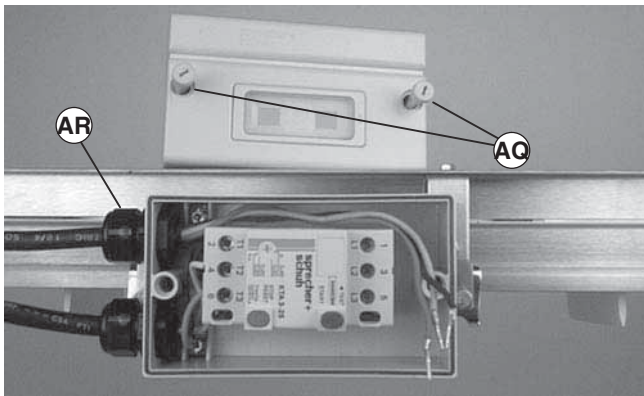

Figure 22
- Loosen cover screws (Figure 22, item AQ). Remove cover.
- Install cover and tighten screws (Figure 22, item AQ).